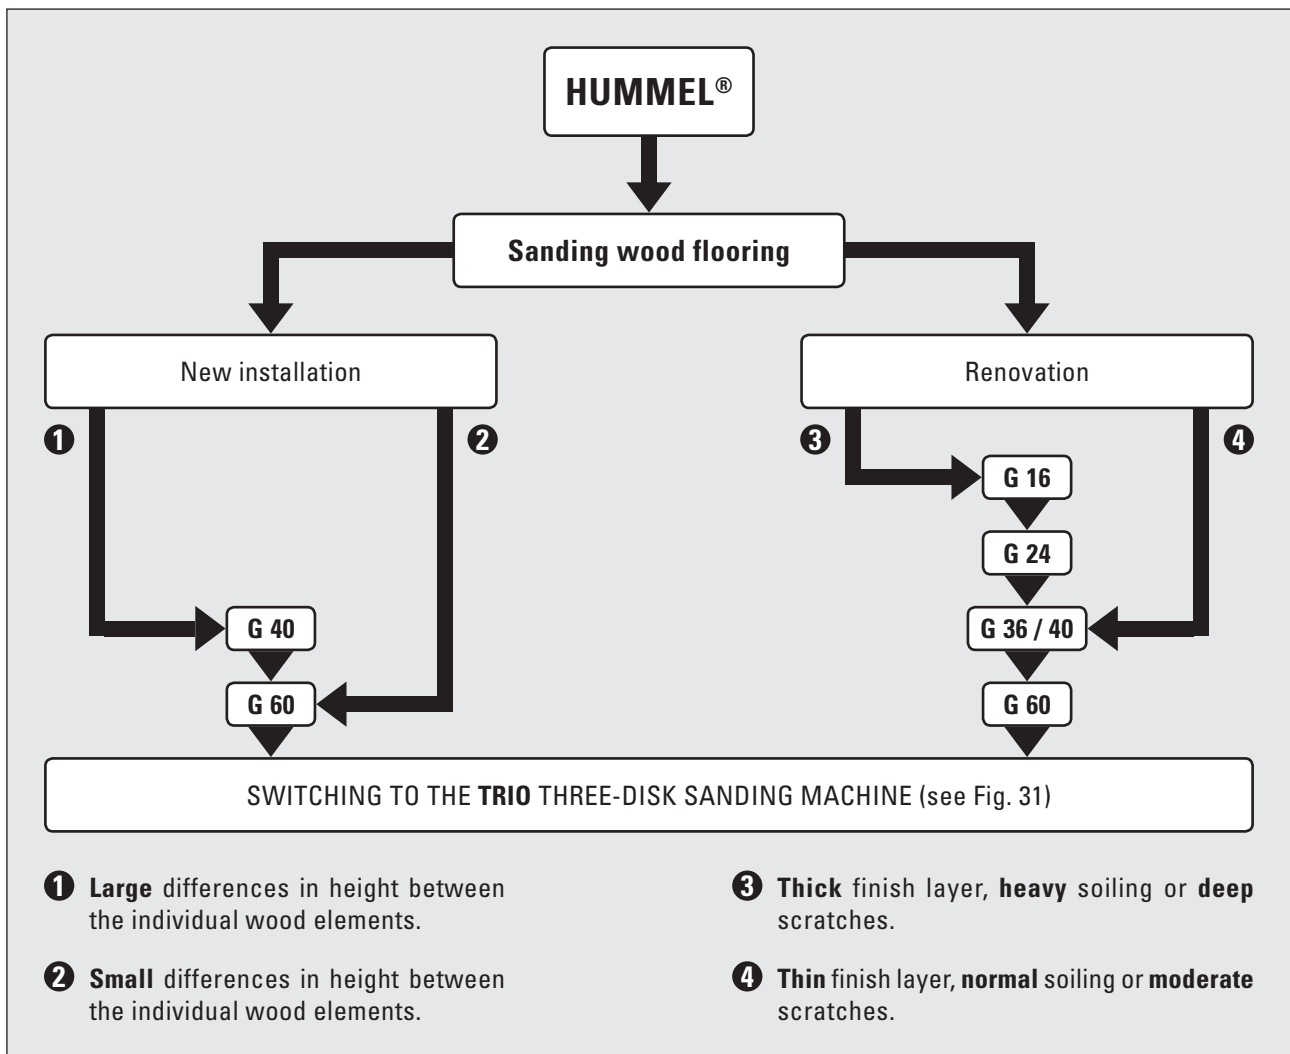
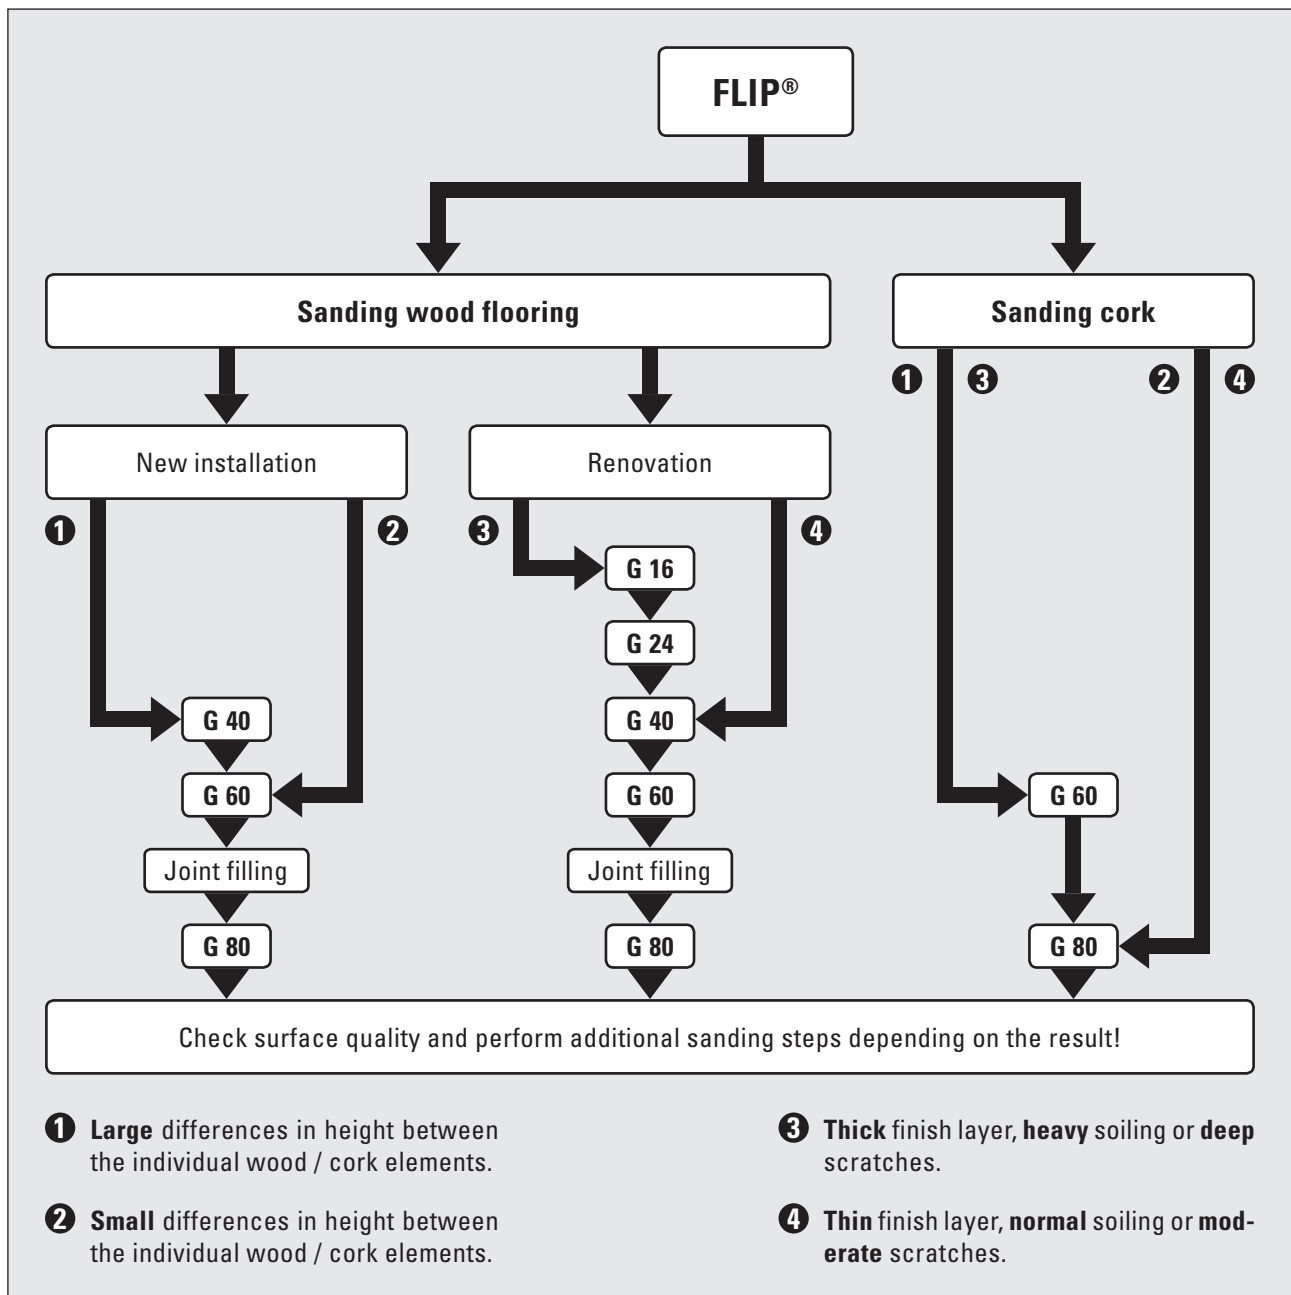
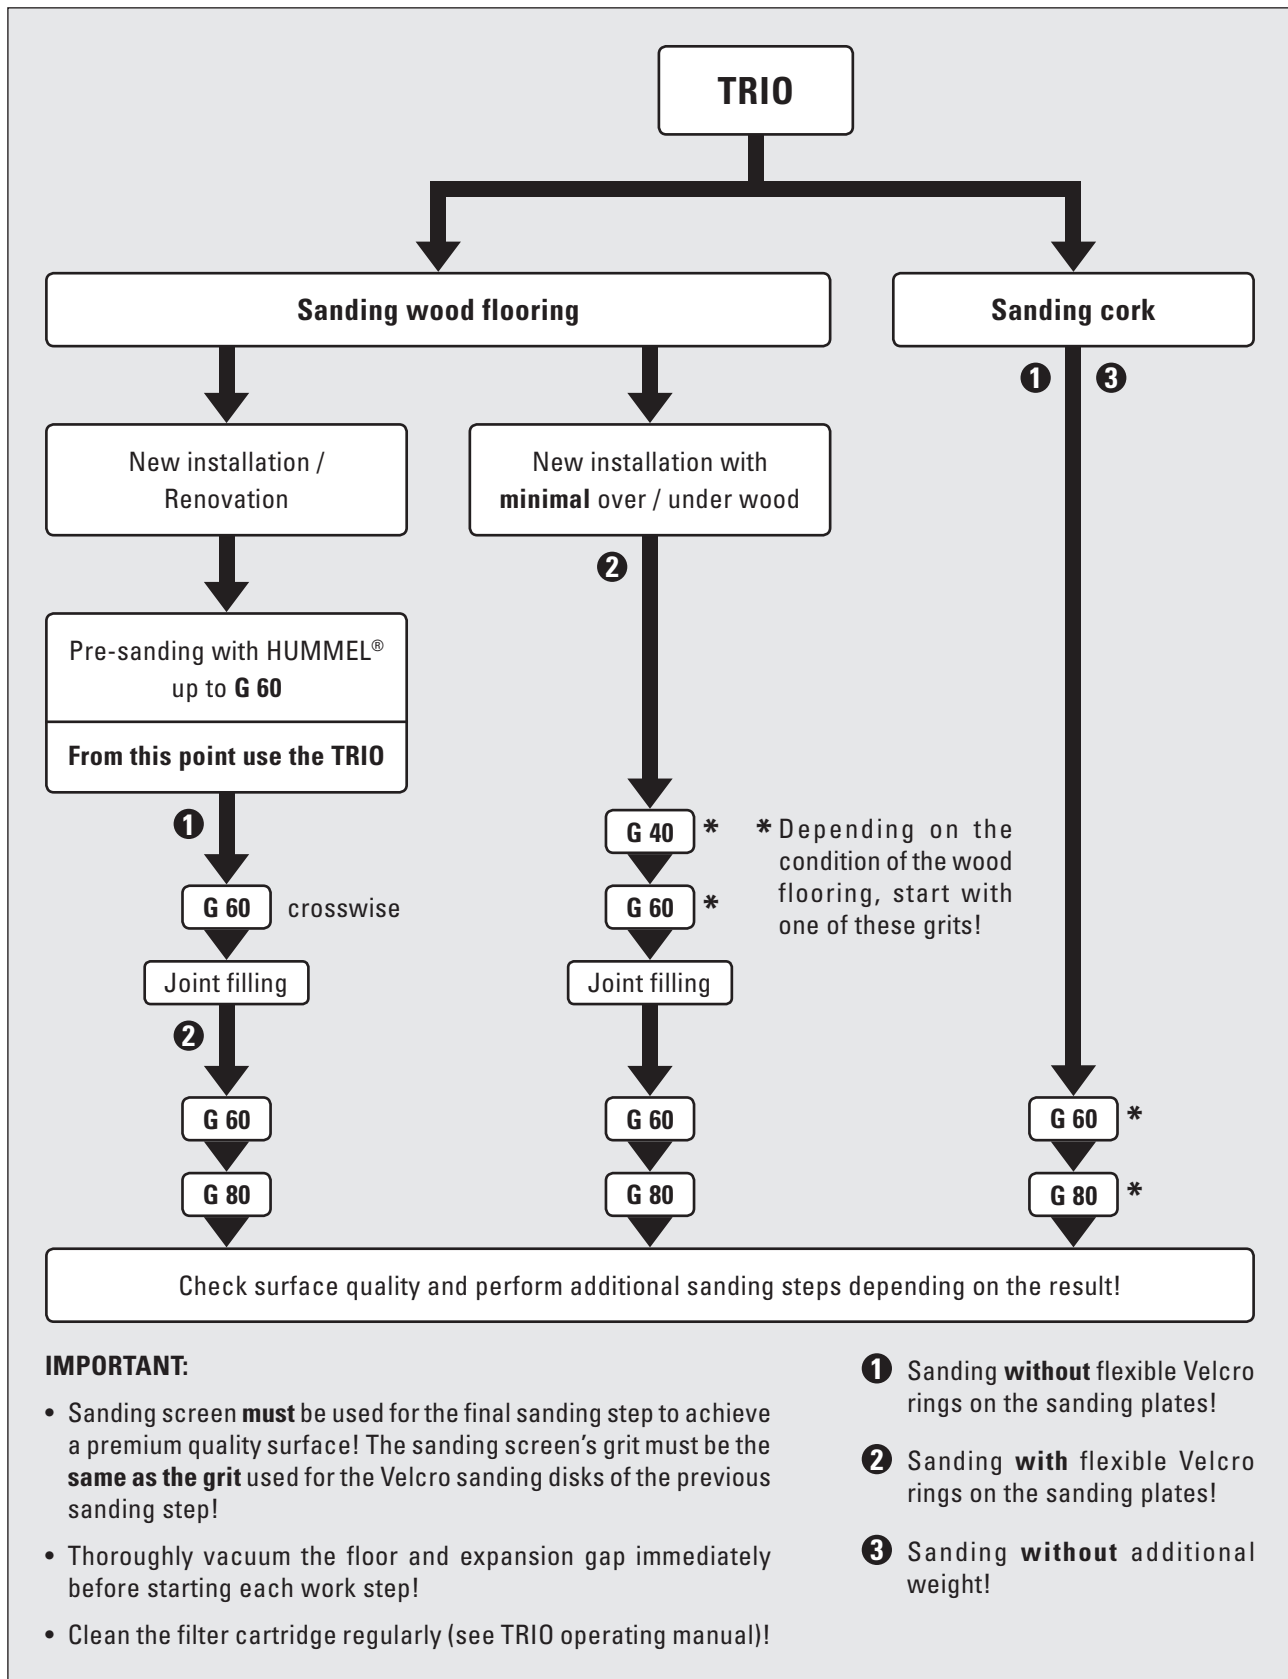
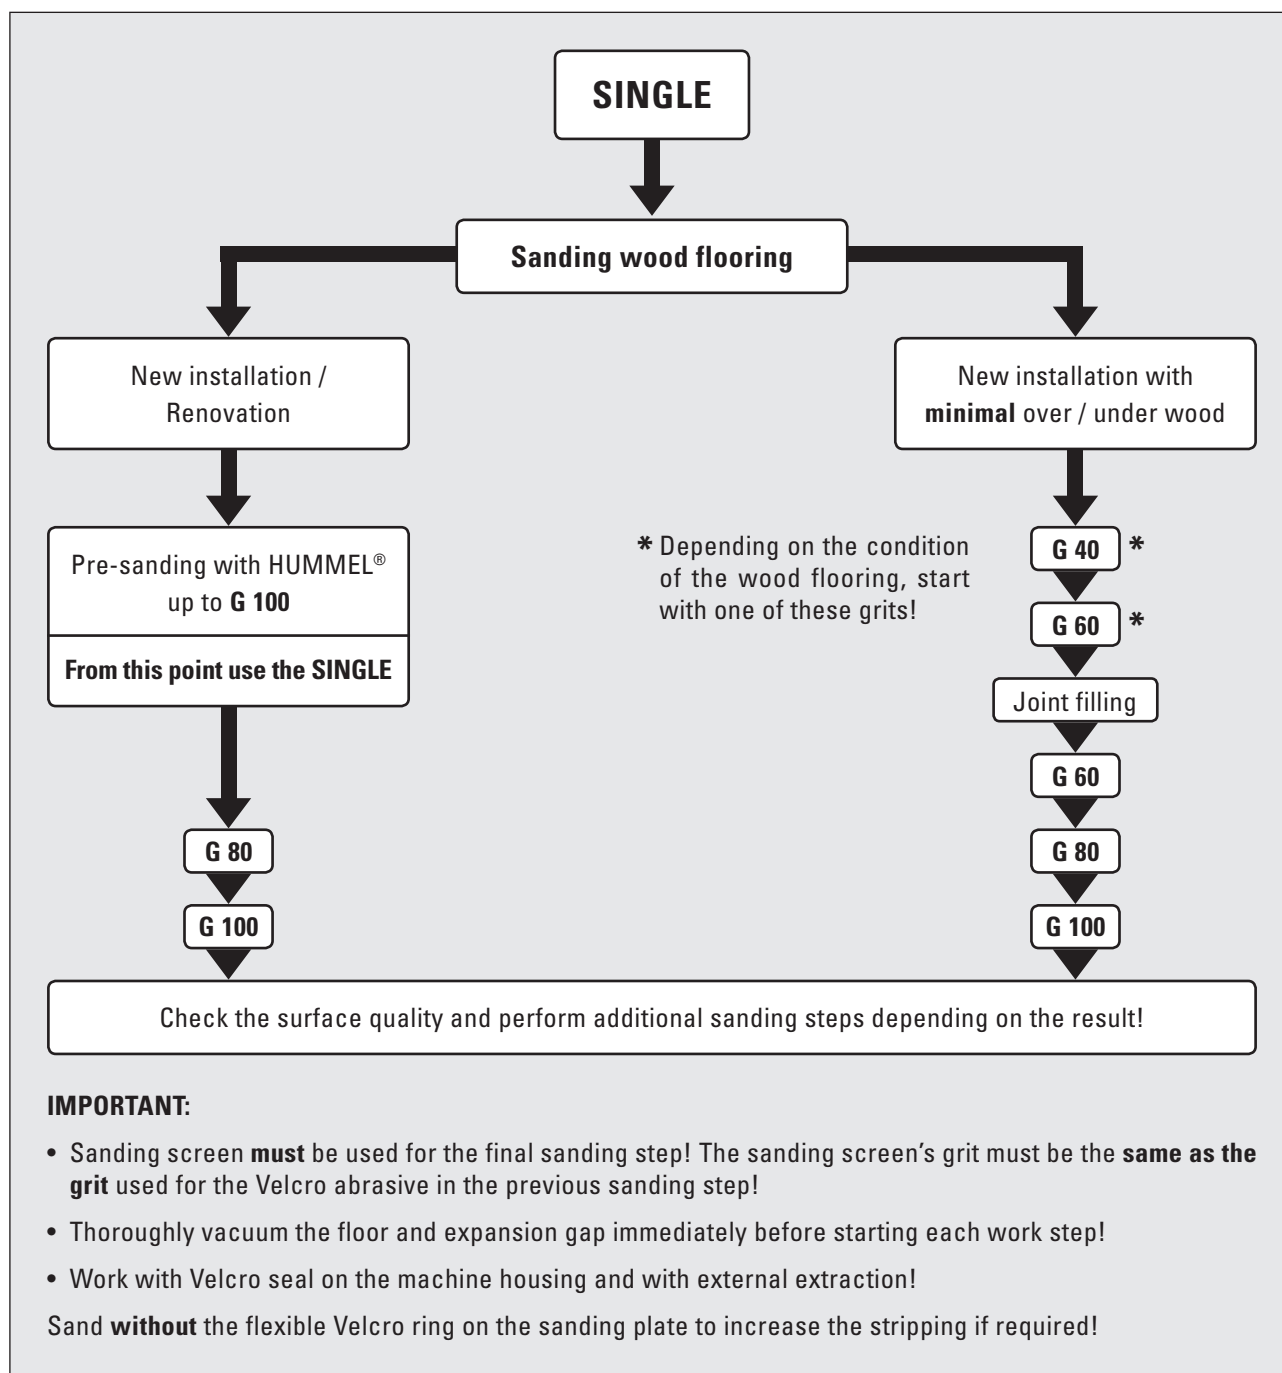

Fig. 22 Processing plan of the HUMMEL® belt sanding machine for the method corresponding to PST®.
Fig. 28 Processing plan of the FLIP® edge and corner sanding machine.
Fig. 31 Processing plan of the TRIO three-disk sanding machine for the PST® method.
Fig. 32 Processing plan of the **SINGLE** single-disk sanding machine.
- The usage of the TRIO for fine sanding achieves a more even and uniform surface than using the HUMMEL®. The combination of HUMMEL® for pre-sanding and TRIO for fine sanding is a basic component of our **Premium Sanding Technology PST®** (see *Section 6.1.2, Method in accordance to the Premium Sanding Technology PST®*, and Fig. 22 and Fig. 31).
Therefore the first edge sanding after filling the joints can be carried out using grit 80 instead of grit 60 (compare Fig. 28 with Fig. 31 and Fig. 32).
The TRIO can also be used for pre-sanding with Velcro sanding disks starting at grit 40 in cases of **minimal over / under wood** (Fig. 31).
The SINGLE can also be used for pre-sanding with abrasives starting at grit 40 in cases with **minimal over / under wood** (Fig. 32).
The methods used for sanding with the ELAN and with the FLIP® are similar; see FLIP® processing plan, Fig. 28.
The methods used for sanding with the UNICO and with the FLIP® are similar; see FLIP® processing plan, Fig. 28.
The excess filler must be removed by a sanding step after the filling and the filler's drying time (see processing plans Fig. 21, Fig. 28, Fig. 31, Fig. 32). **No filler residues** should remain on the surface of the wood flooring.